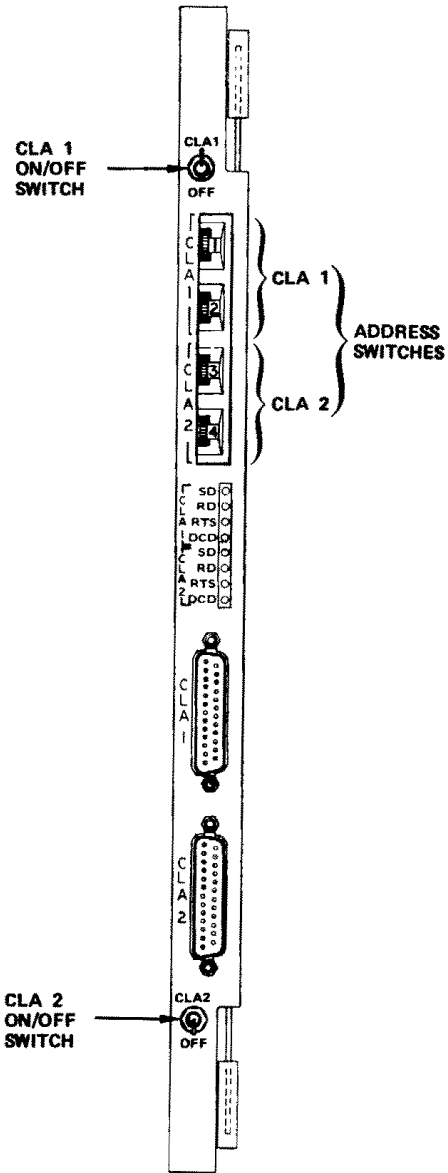

Figure 2-2. CLA Circuit Card ON/OFF Switch Locations
3. On the CLA circuit card, set the CLA ON/OFF switch to ON. See figure 2-2. Only those cards that are configured are affected.